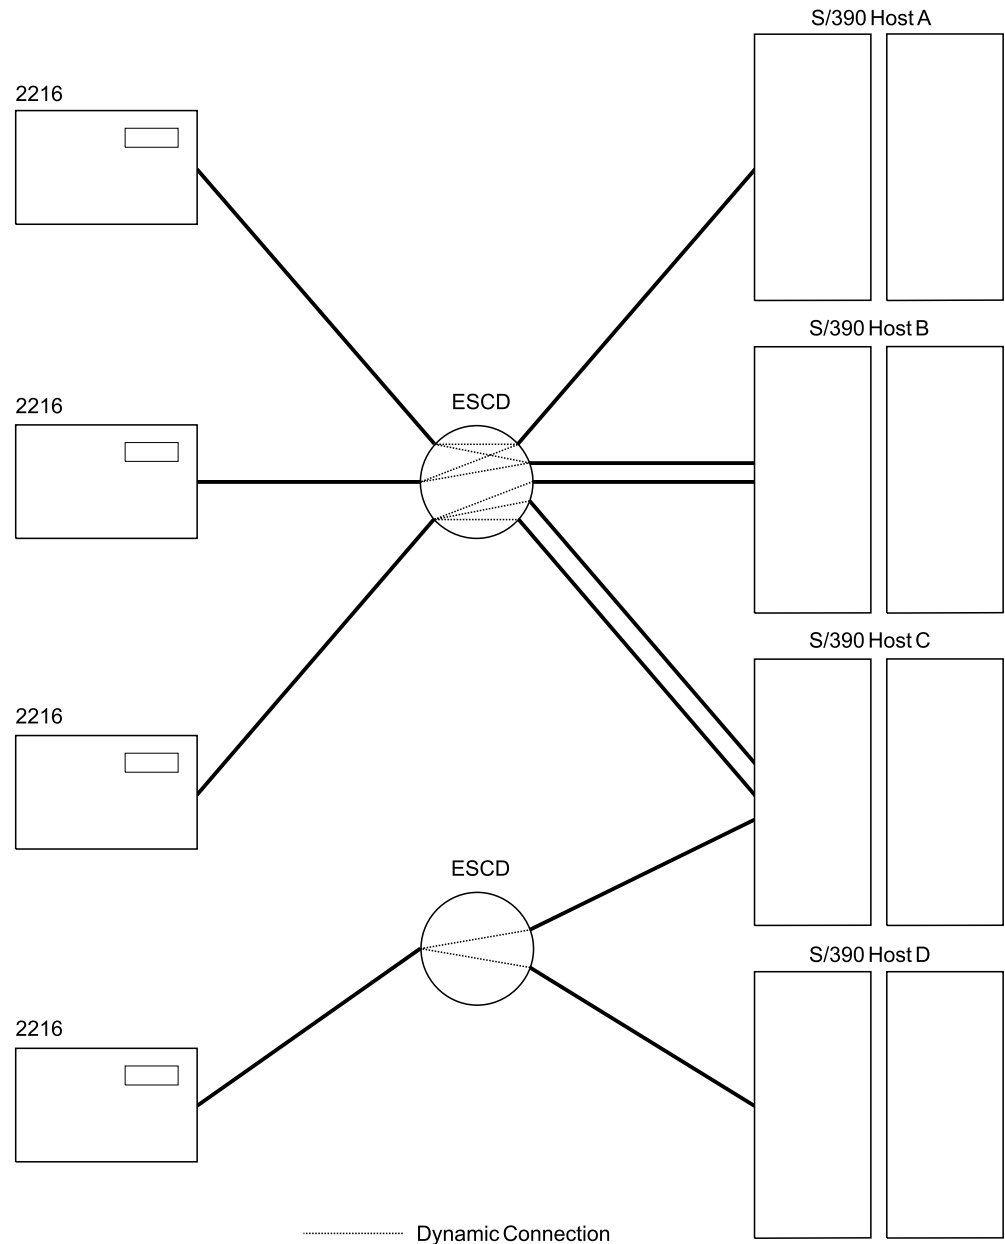

Figure 1-4. Multiple System ESCON Connections Example
See Figure 1-4 on page 1-10.
**Multiple Systems Attachment with ESCDs:** Figure 1-4 shows the connection of multiple S/390 hosts to single and multiple 2216s, with possible backup paths. A fault-tolerant solution can be designed using backup channels, multiple ESCDs, and/or multiple 2216s.